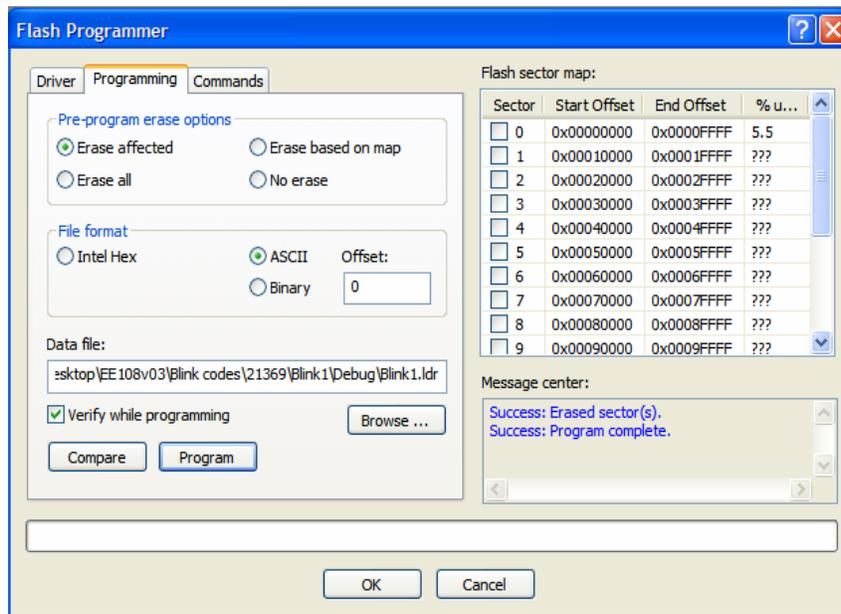
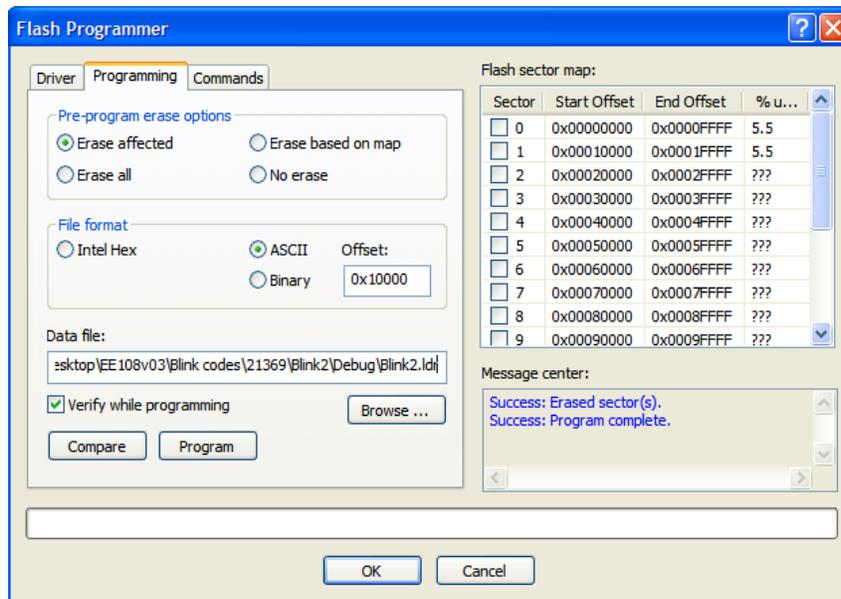

Figure 5. Loading "Blink1" in sector 0
Figure 6. Loading "Blink2" in sector 1
- Load `Blink1.ldr` into sector 0 and load `Blink2.ldr` into sector 1 of the parallel flash using the VisualDSP++ Flash Programmer utility. Figure 5 and Figure 6 show the Flash Programmer options for loading `Blink1.ldr` and `Blink2.ldr`, respectively.